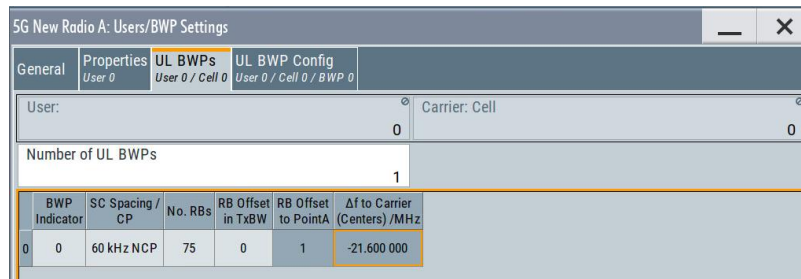

Fig. 2-25: User/BWPs setting window configuration for UL BWP
- Users/ BWPs configuration is shown in Fig. 2-25,